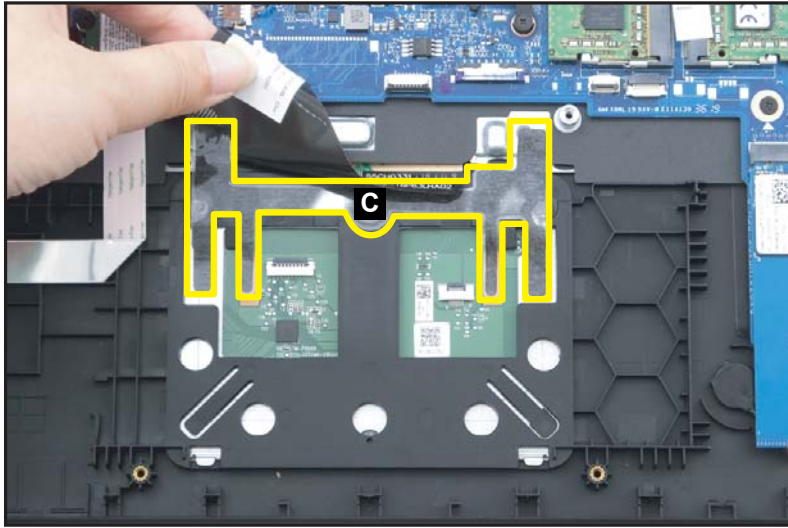

Figure 1-23. Touchpad Board Removal
3. Peel off and remove the touchpad conductive tape (C) from the touchpad module and top assembly (Figure 1-23).